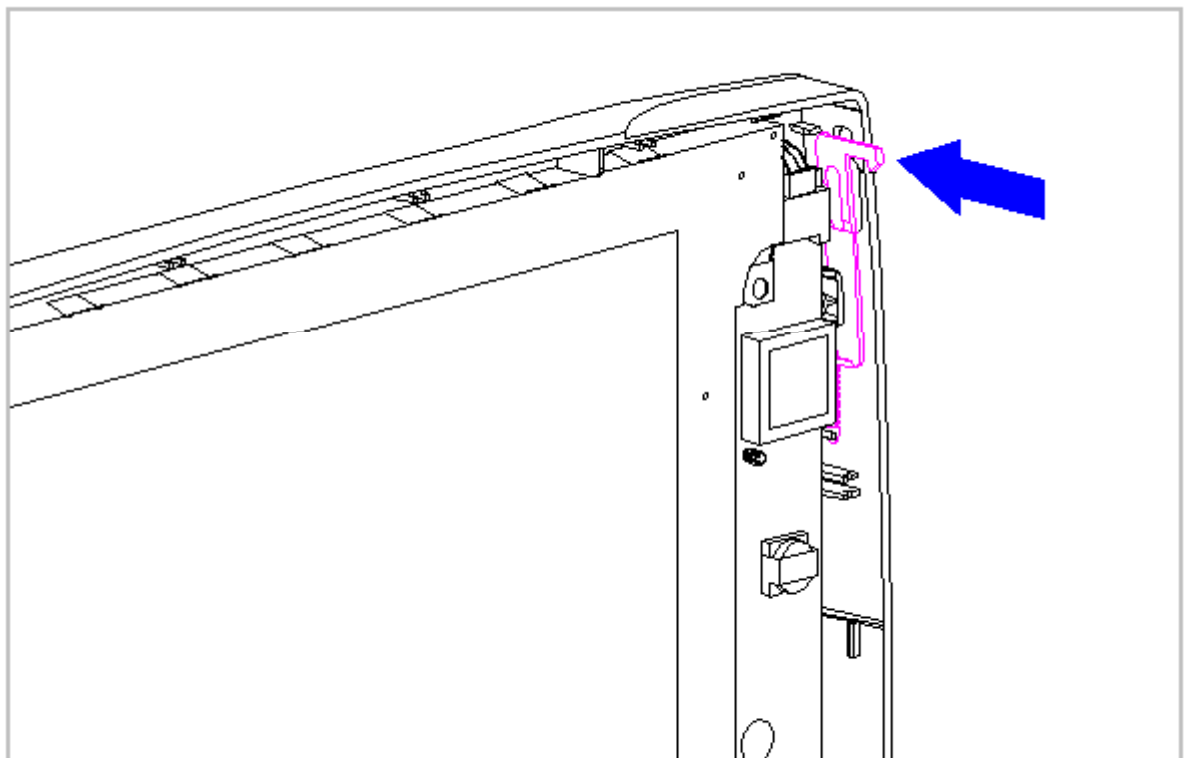

Figure 5-76. Replacing the Display Latch
2. Slide the display latch into place on either side of the display enclosure (Figure 5-76).